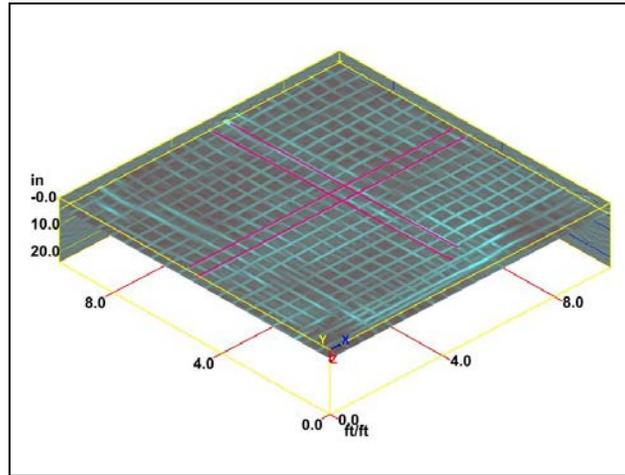

Figure 30: Data display in 3D-View. A 10×10 ft area of a warehouse floor with wire mesh with some interpretations added (in pink).
**3D-View** adds the three-dimensional cube/slice viewing capability to RADAN as well as the ability for the user to add their own interpretations of what the data displays (Figure 30). This shows the entire site at once in a plan view or as a user-selected perspective view of the data “cube”. There is no limit to the dimensions of the survey area.